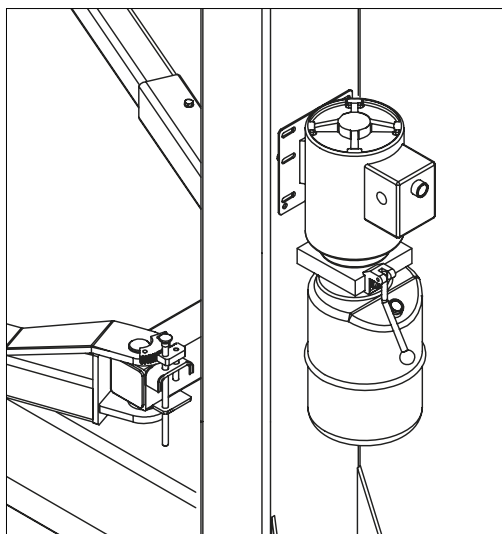

Fig. 36
- ◆ Install the pump on the hock board according to **Fig. 36** and fix it on the bottom of main column.